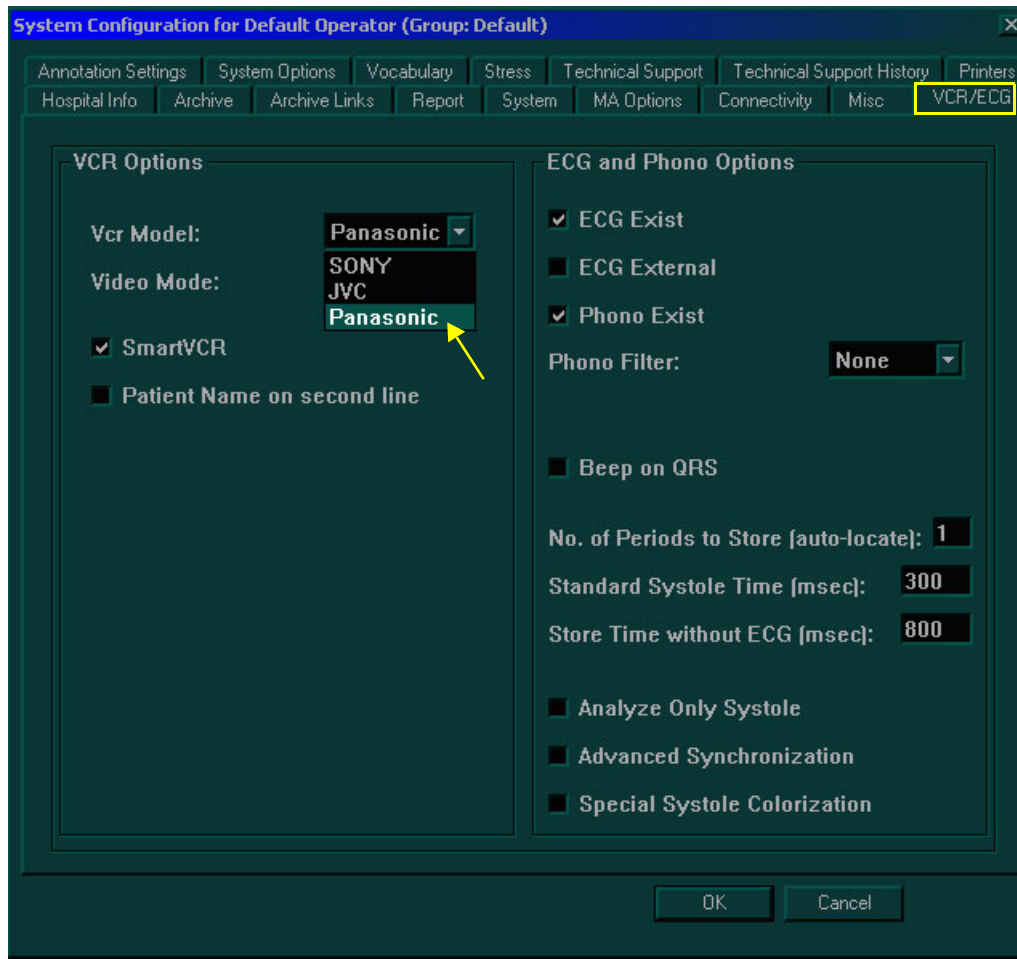

Figure 8-151 Panasonic VCR Option
- 12.) Under System Configuration, VCR/ECG Tab, select the Panasonic VCR option, as shown in Figure 8-151 below. For more information, see VCR/ECG Tab on page 3 - 45.